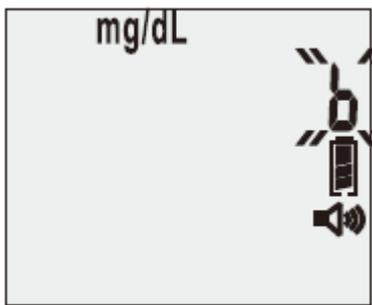

Figure 3-15).
1. To flag a before-meal test, press the “R” right function button two (2) times after you hear: “**Apply blood now.**” You will then hear: “**Ready for test before meal.**” Apply blood to the edge of the strip. You will hear “**Testing in process**” (see Figure 3-15).